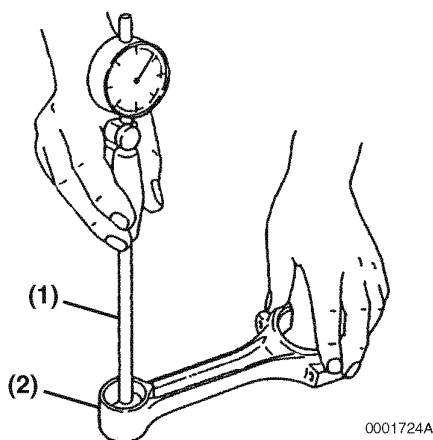

Figure 8-54
1. Measure the wrist pin bushing bore using a bore gauge (**Figure 8-54, (1)**). Record the measurement. Replace the bushing if not within specifications. If the bushing has been removed, measure the inside diameter of the connecting rod small end (**Figure 8-54, (2)**). See *Connecting Rod* on page 8-12 for specifications.